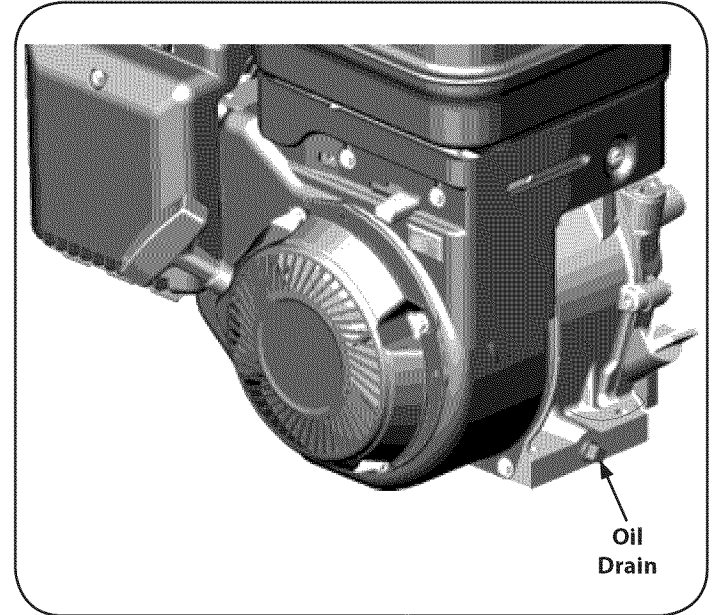

Figure 20
3. Remove oil drain end cap located at the base of the engine, and drain oil into an appropriate receptacle. See Figure 20.